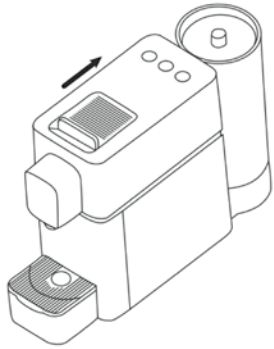

fig. 4
- 1 Open the sliding door (fig. 4)
When the sliding cover is opened (fig. 1), the big and small cup buttons are usually bright ice blue), press and hold the big and small cup buttons simultaneously (fig. 2), quickly close the sliding cover (fig. 3), close the sliding cover within 3 seconds), and then release the buttons (fig. 4). The lights on the big and small cup buttons start to flash (2 seconds on / 1 second off), and the descaling program begins.